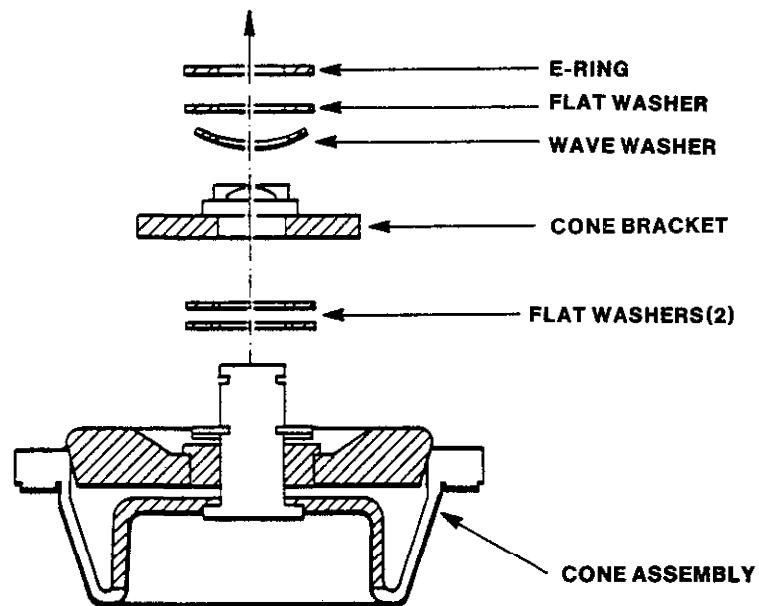

FIGURE 6-3
2. Carefully insert the E-Ring, flat washer, and wave washer that holds on the cone shaft (see Figure 6-3).